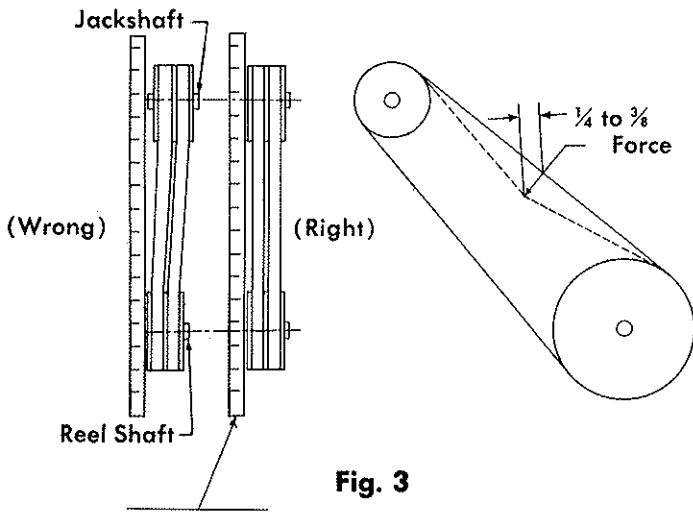
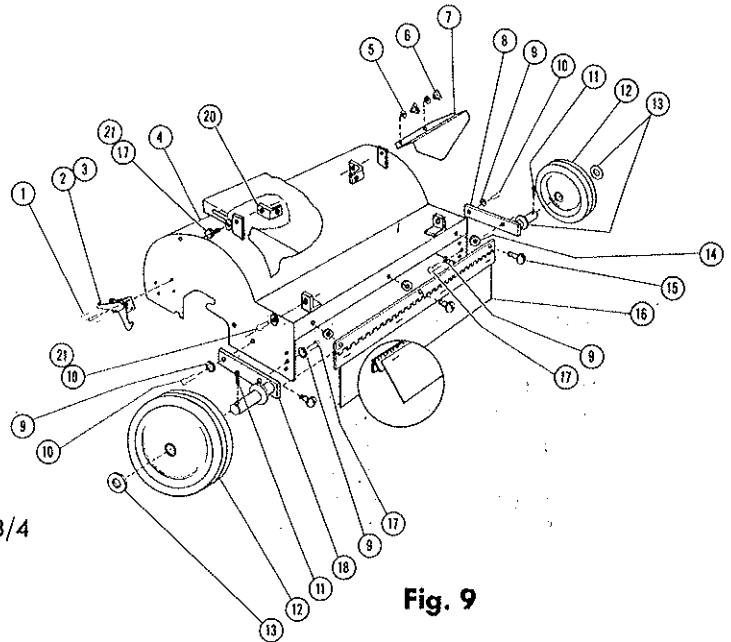

Fig. 3
Fig. 9
5. Remove cotter pin, Item 11, Fig. 9, and washer, Item 13, Fig. 9, from axle on right hand side. Move wheel out far enough to put sheave on jackshaft. The wheel will still support the machine. Install sheave, Item 20, Fig. 10, on the jackshaft as shown in Fig. 3 but do not tighten set screw. Move wheel back to its normal position and install washer and cotter pin.
7. The next step is to line up the sheave on jackshaft with the reel sheave (see Fig. 3), and tighten set screw in jackshaft sheave. Next install the matched set of belts received loose with the basic machine. Loosen four cap screws, items 10 and 17, figure 9. Next loosen the two adjusting bolts, item 18, figure 10, (one on each side of engine base), and push the engine support base, item 16, figure 10, forward to provide plenty of room to fit the belts over the sheave. (Do not pry belts over the side of the sheave). Adjust belt tension by turning the adjustable bolts clockwise, being careful to turn each bolt an equal amount so that the jackshaft and reel shaft will always be parallel. The correct tension is determined by following the test method shown in figure 3.
The engine belt has been assembled and should be properly adjusted. After initial run in, all belts should be checked and adjusted, if necessary, to specifications as outlined in figure 3.
1. To tighten engine belt, loosen four engine bolts. Move engine toward front of machine being sure to keep engine crank shaft parallel with jackshaft. Position engine and check tension according to instructions in Fig. 3. Partially tighten bolts and check sheave and belt alignment. If OK, finish tightening engine bolts.
2. To tighten reel belts, loosen the four cap screws, items 10 and 17, figure 9. Turn the adjusting bolts, item 18, figure 10 (one on each side of engine base) clockwise to tighten the belt. Turn it counterclockwise to loosen the belt. **CAUTION:** The adjusting bolts should be turned an equal amount on each side so that the jackshaft and reel shaft will always remain parallel. After adjustment, check the sheave alignment. If okay (see figure 3), retighten the cap screws, items 10 and 17, figure 9.